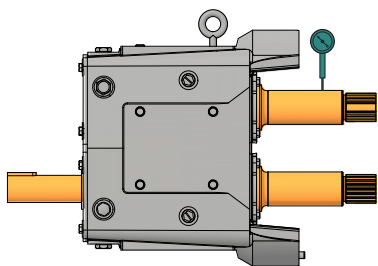

Figure 29 - Check bearings
- Check the bearings with a dial indicator for shaft radial play (Figure 29). If the deflection is equal to or greater than the rotor-to-body diametrical clearance ("" on page 53), replace the bearings.